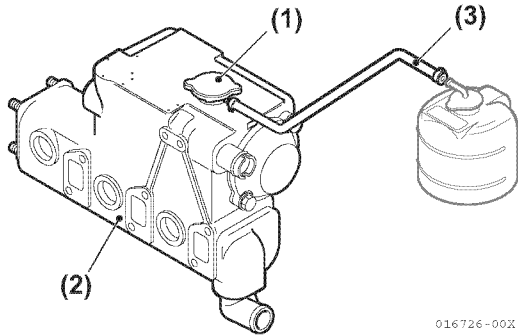

Figure 7-16
1. Remove coolant filler cap (Figure 7-16, (1)) from heat exchanger (Figure 7-16, (2)).
3. Check the rubber hose (Figure 7-16, (3)) connecting the coolant recovery tank to the heat exchanger. Be sure the hose is securely connected and there is no damage.